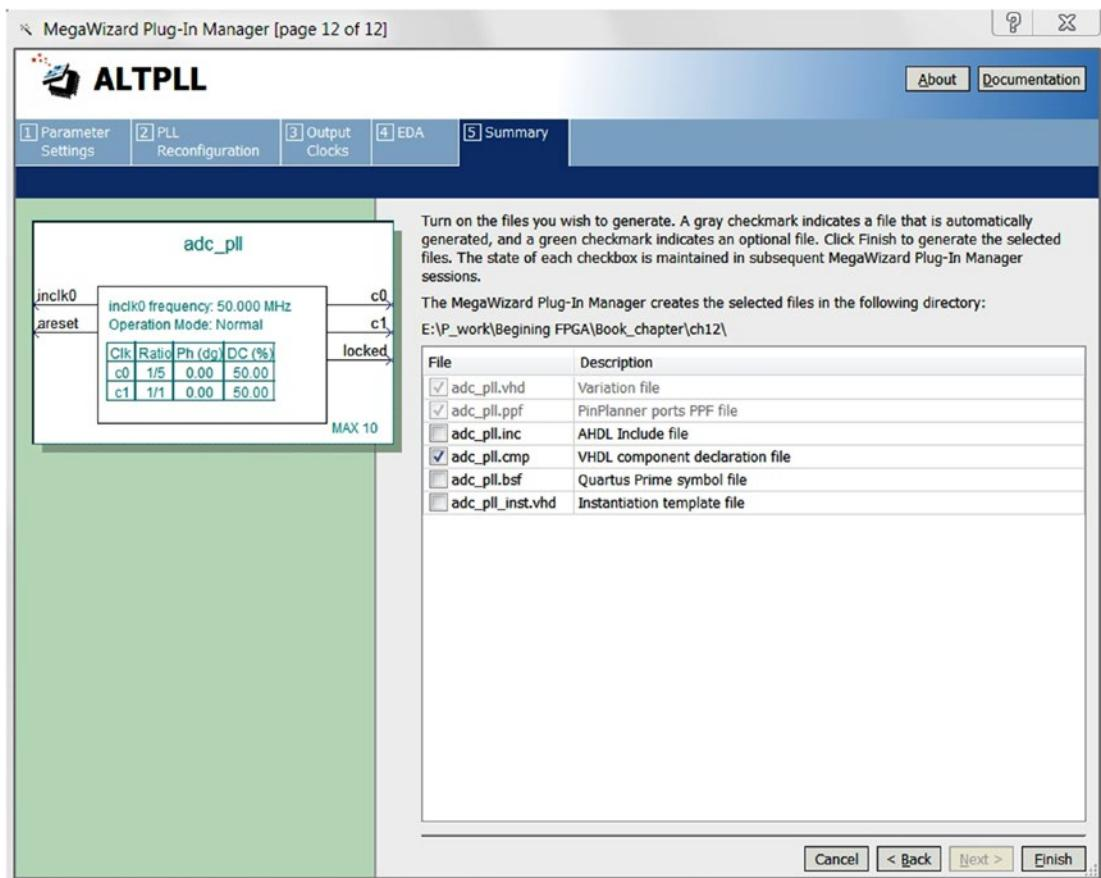

Figure 12-22. MegaWizard Plug-In Manager for ADC IP—
Step 5: Click the **Finish** button in Figure 12-22. It may pop up another sub-window. Click the **Finish** button on the sub-window and note that the resulting files were added to the Files tab of the Project Navigator.